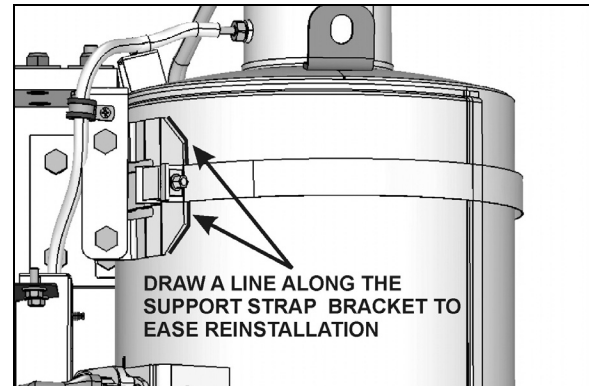

FIGURE 5: MARKING THE SUPPORT STRAP BRACKET
| FIGURE 5: MARKING THE SUPPORT STRAP BRACKET .....  | 4 |
5. To ease proper positioning of the ATD and the diffuser at the time of reinstallation, using a marker, draw a line along the support strap bracket on the ATD. This will be helpful to reposition the ATD exactly as it was before removal (figure 5).